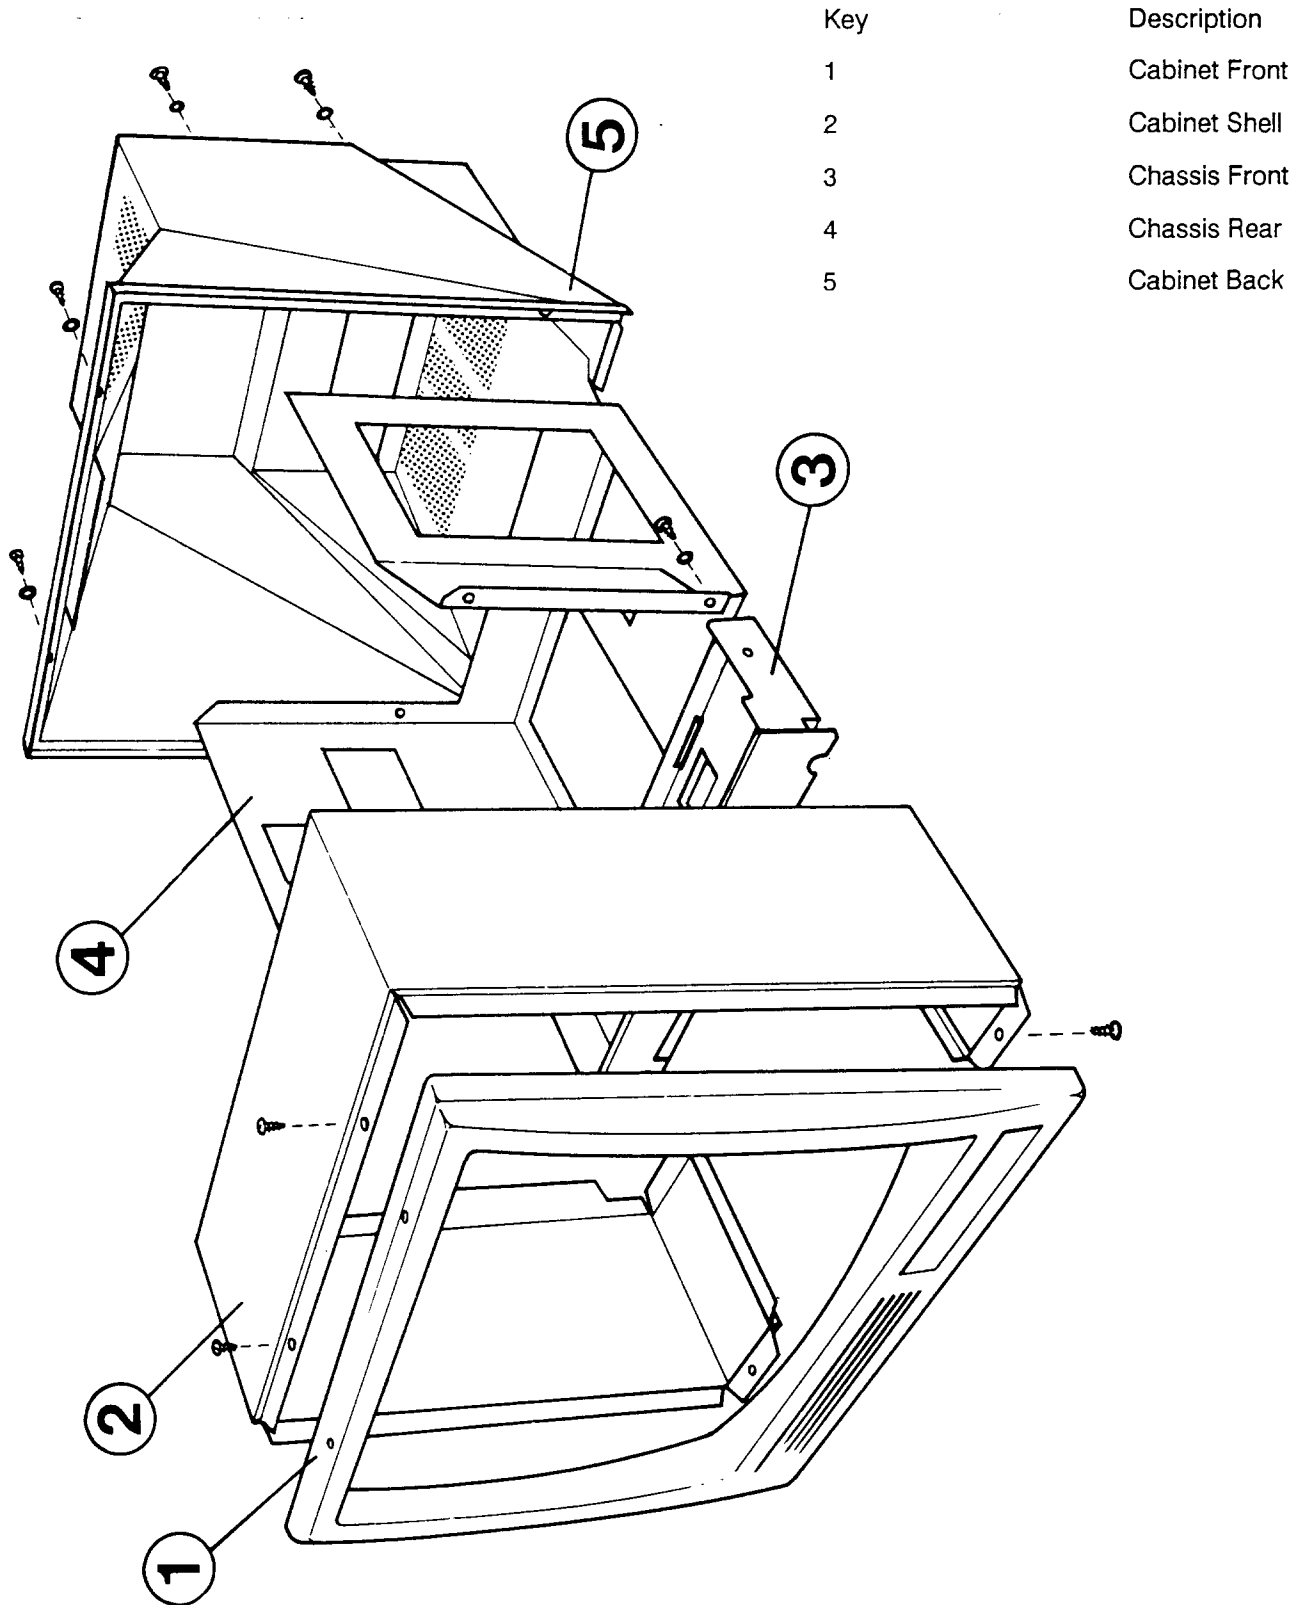

Fig E1 E SERIES EXPLODED VIEW
A general view of the cabinet and mechanical chassis construction is shown in Figure E1, E Series Cabinet: Exploded View.
To detach the Cabinet-Front Moulded Fascia, item (1) from the Cabinet Shell, item (2) shown in Fig E1, E Series Cabinet: Exploded View.